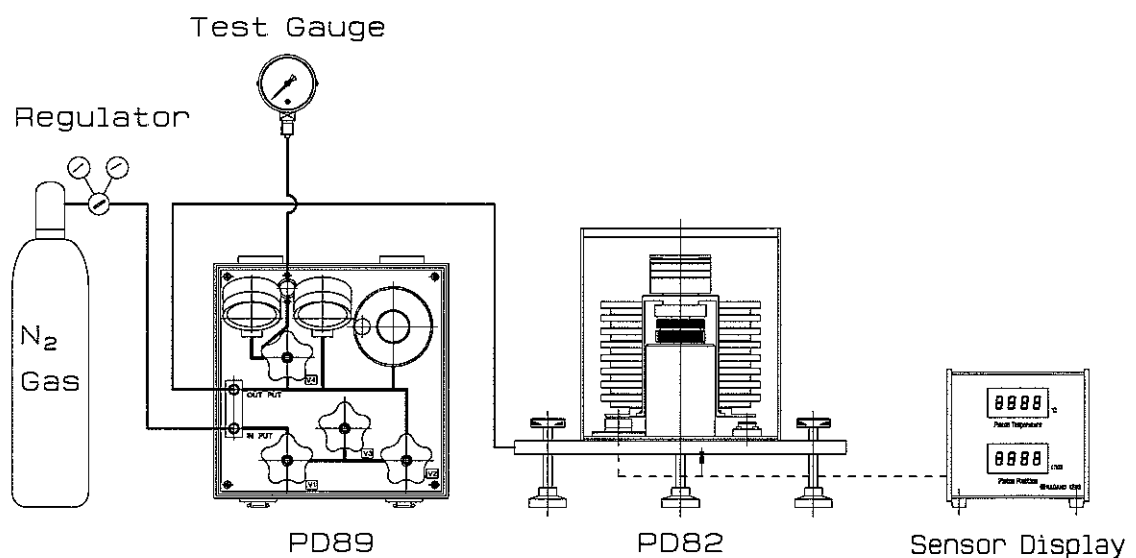

Figure 6-1
- ① Connect the PD82, the PD89, pressure source and the test gauge with the pipe supplied with the gauge as shown in Figure 6-1.